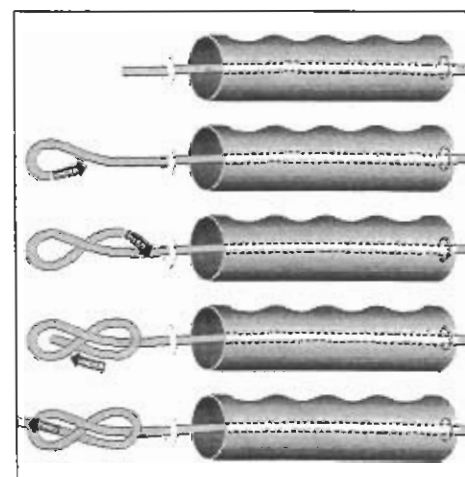

Figure 29
7. Insert the end of the cord into each hand grip from the top to the inside. Slide a washer on each cord. Tie a figure 8 knot near the cord ends to secure the hand grips (Figure 29).